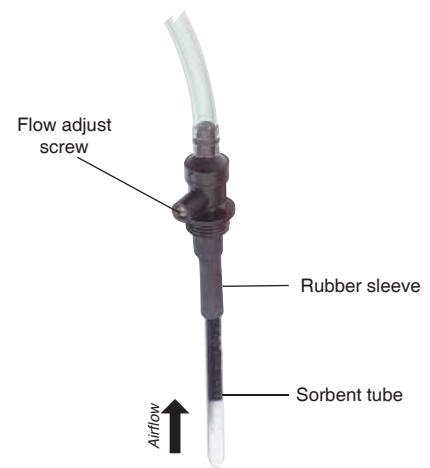

Figure 3. Single Adjustable Tube Holder with Sample Tube
Using Single Adjustable Tube Holder (Figure 3)
4. Insert an opened representative sorbent tube into the rubber sleeve (Figure 3) of the tube holder **with the arrow on the tube pointing toward the tube holder**.
6. Using flexible tubing, connect the exposed end of the sorbent tube to the calibrator outlet (suction port). Loosen the brass flow adjust screw (Figure 3) on the tube holder. Adjust the flow rate by turning the flow adjust screw (**counterclockwise to increase, clockwise to decrease**) until the calibrator indicates the desired flow. Take a minimum of three readings and record the average flow rate, as per OSHA/NIOSH instructions.